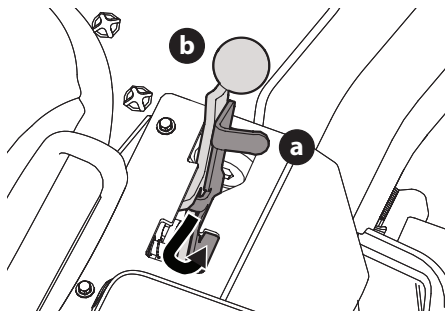

Fig. 1
1. To engage the transmission bypass, pull the transmission bypass lever (a) located to the right of the operator's seat (next to the park brake lever (b)), back and into the notch on the right side of the slot (Fig. 1).